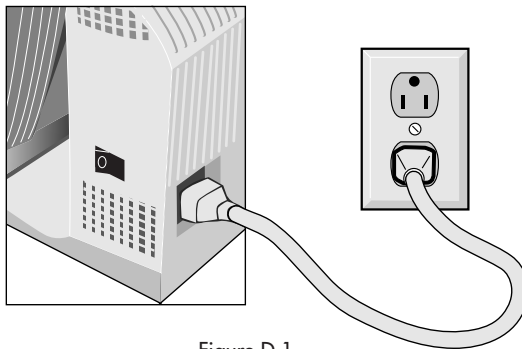

Figure D.1
4. Connect one end of the power cord to the MultiSync LCD Series monitor and the other end to the power outlet (**Figure D.1**).